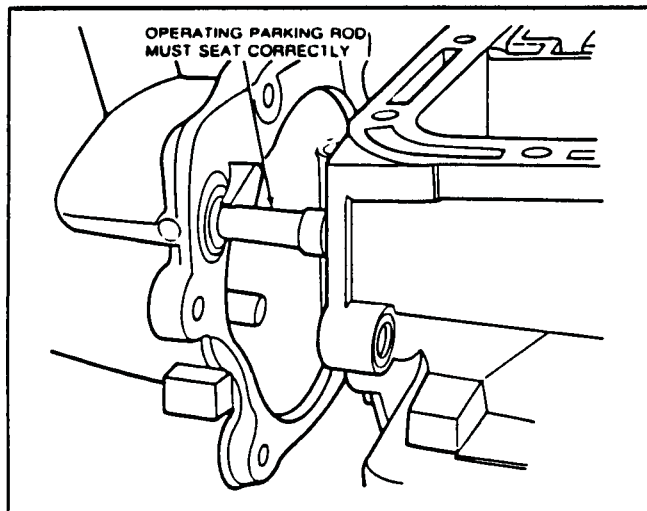

FIG. 52 Extension Housing Installation
20. Using a new gasket, install the extension housing. Be sure to correctly seat the operating parking rod in the extension guide cup. Tighten the bolts to 37-52 N·m (27-39 lb-ft), (Fig. 52).